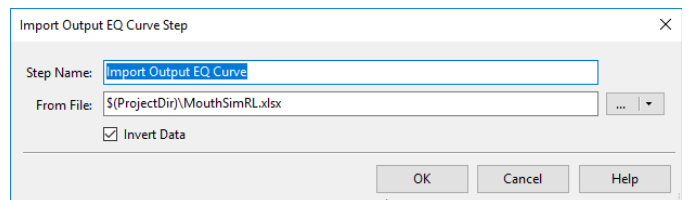

Figure 13. The Import Output EQ Curve sequence step in signal path SP2: EQ Mouth.
- In Signal Path Setup, an Import Output EQ Curve sequence step (Figure 13) is used to import the Relative Level response exported in the first signal path, invert it and apply it as an output EQ, to level the speaker output.